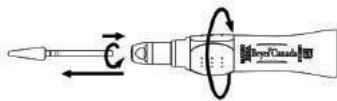

Fig.3
1. Open collet by turning grip 1/4 turn (clockwise) as shown in Fig 3 until you feel the "click".